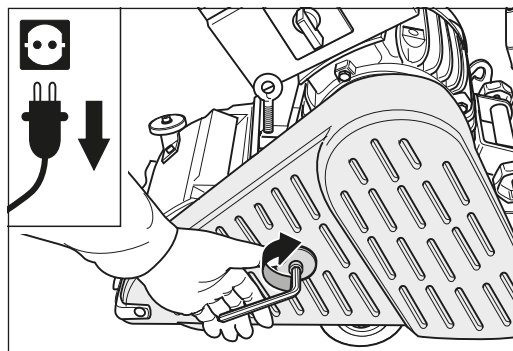

Fig. 66 Close the belt guard.
- 8 Close the belt guard (fig. 66).